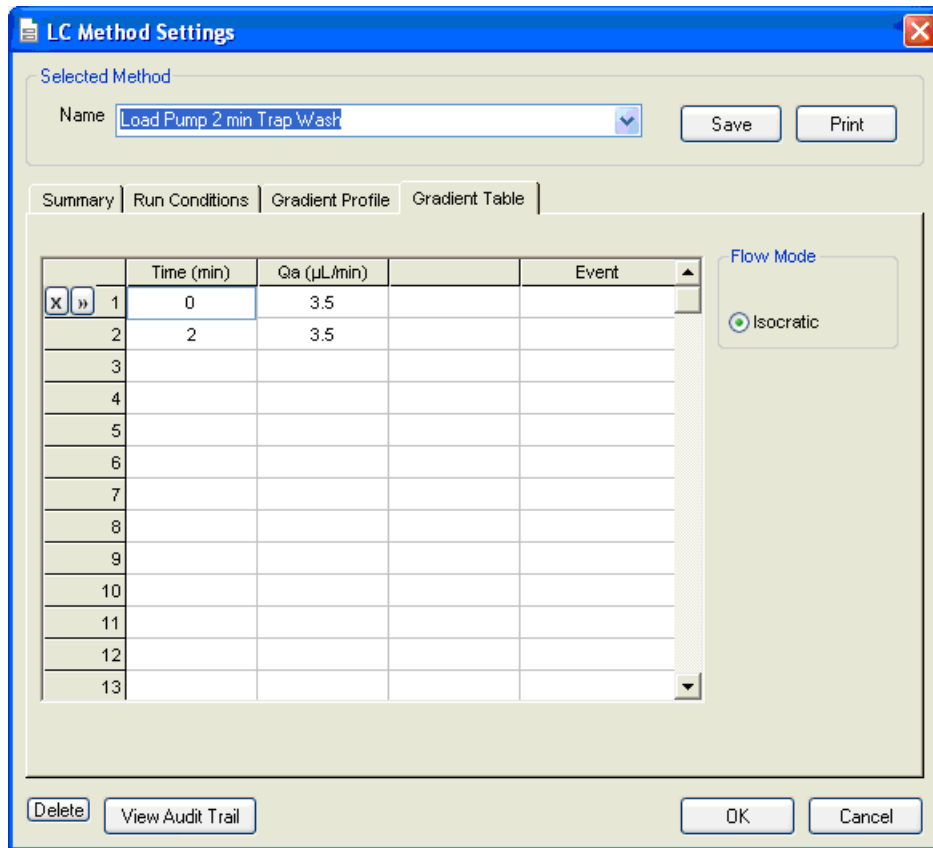

Figure 1-3 LC Method Settings dialog—Gradient Table tab
4. On the **Gradient Table** tab, revise the method for the loading pump (the loading pump will be the pump with the microflow module), as shown in Figure 1-3.